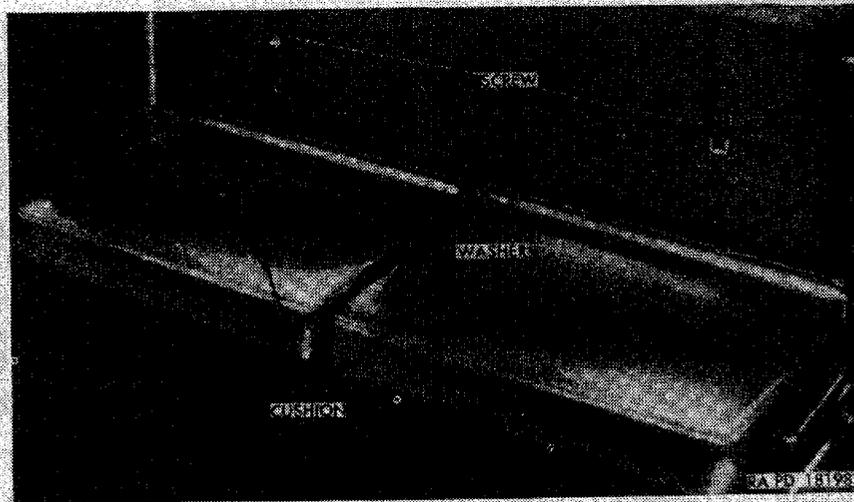

Figure 202. *Right wheel house cushions—installed.*
c. *Wheel House Cushions* (fig. 202).